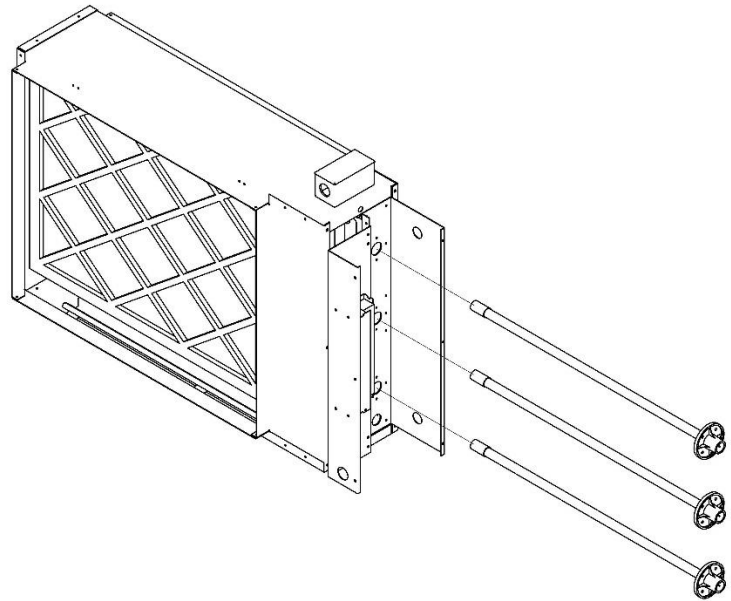

Figure 24
6.) Remove lamp by alternating a quarter turn clockwise and a quarter turn counterclockwise as it is pulled out. This will prevent the lamp from becoming bound up in the catalyst media. See Figure 24.
- 8.) Replace lamp by alternating a quarter turn clockwise and a quarter turn counterclockwise as it is pushed in. This will prevent the lamp from becoming bound up in the catalyst media. See Figure 24.